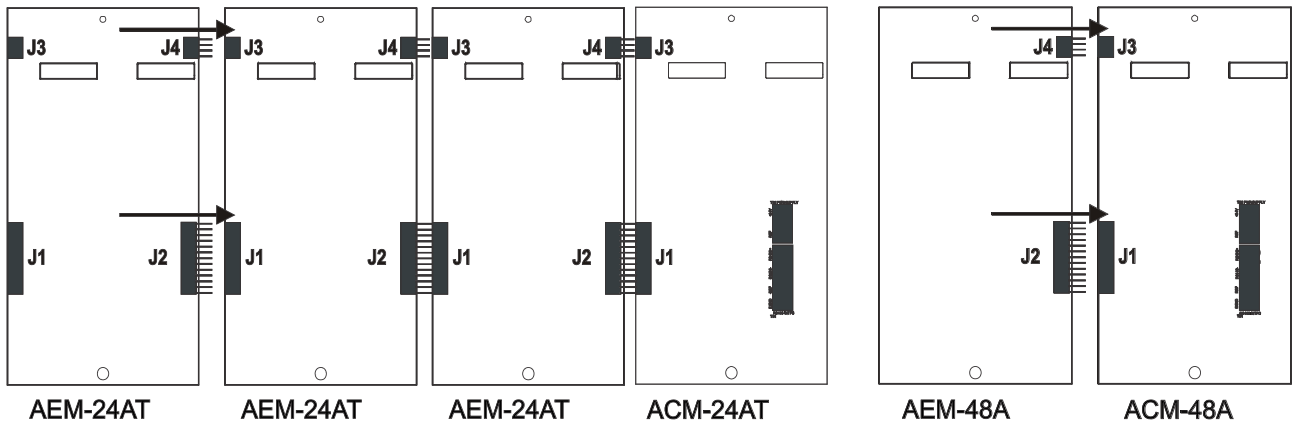

Figure 2-2 - Joining the ACM-24AT & ACM-48A to Expanders
4. Carefully align the expansion headers on the ACM Annunciator Expander(s) to the ACM Annunciator Module and slide together to join (see Figure 2-2.)